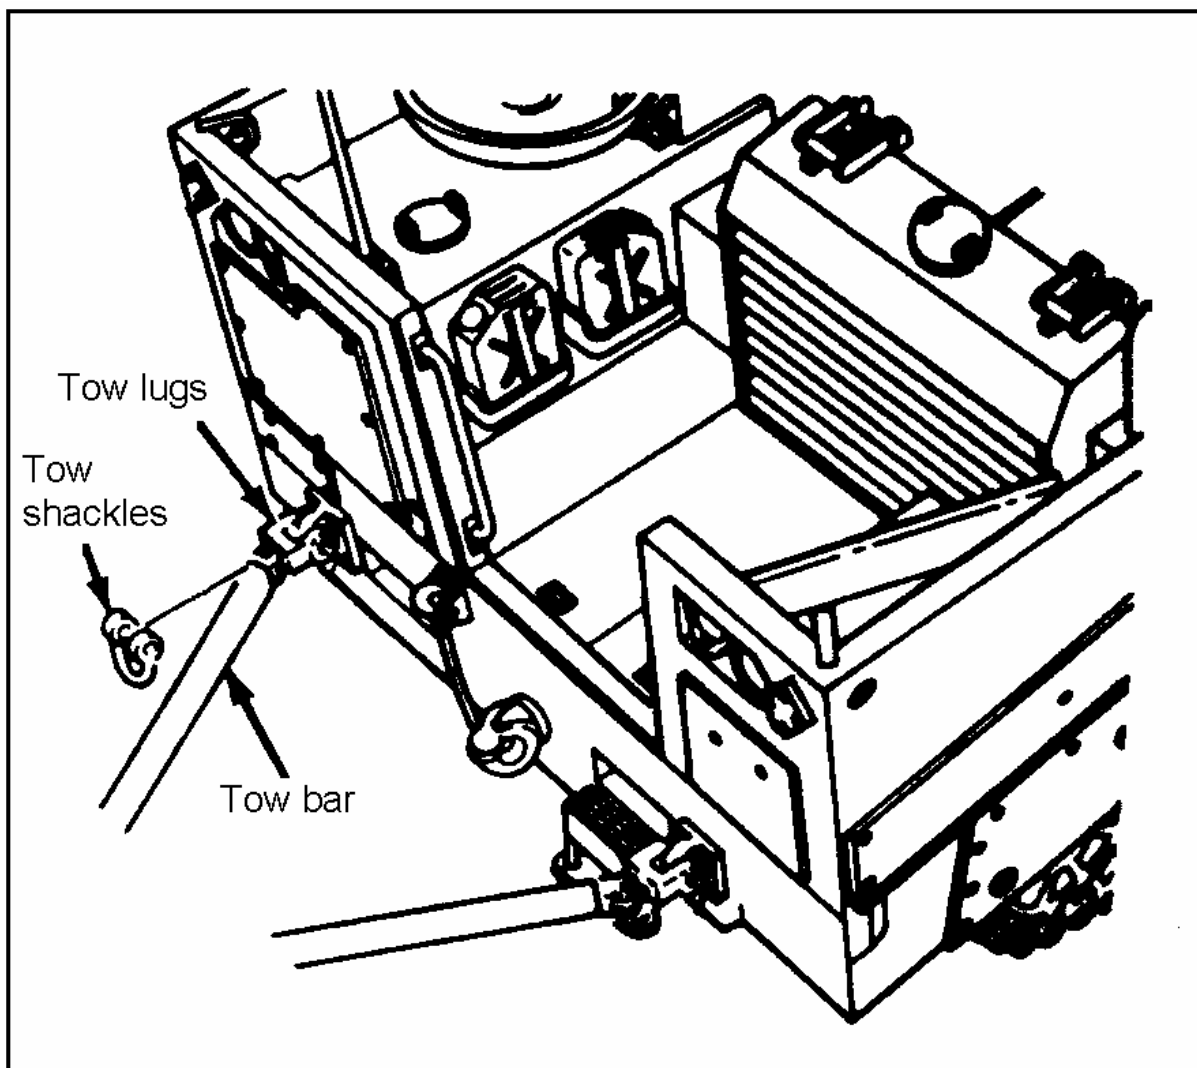

Figure 052-227-1250-1
1. Attach the tow bar to the tow shackles on the rear of the ACE to perform vehicle recovery operations (Figure 052-227-1250-1). There are no suitable attachment points on the front of the ACE.